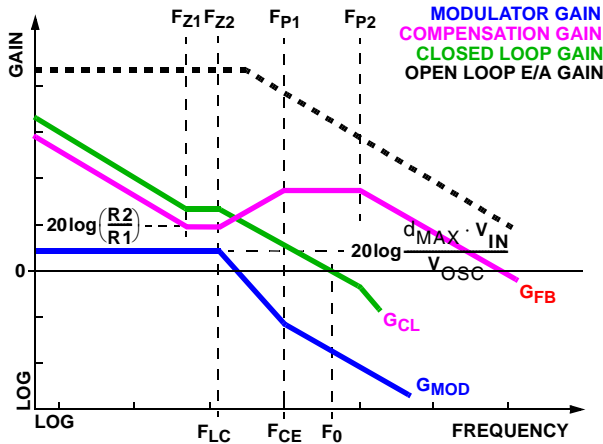

FIGURE 11. ASYMPTOTIC BODE PLOT OF CONVERTER GAIN
Figure 11 shows an asymptotic plot of the DC-DC converter's gain vs. frequency. The actual Modulator Gain has a high gain peak dependent on the quality factor (Q) of the output filter, which is not shown. Using the above guidelines should yield a compensation gain similar to the curve plotted. The open loop error amplifier gain bounds the compensation gain. Check the compensation gain at F_{P2} against the capabilities of the error amplifier. The closed loop gain, G_{CL} , is constructed on the log-log graph of Figure 11 by adding the modulator gain, G_{MOD} (in dB), to the feedback compensation gain, G_{FB} (in dB). This is equivalent to multiplying the modulator transfer function and the compensation transfer function and then plotting the resulting gain.